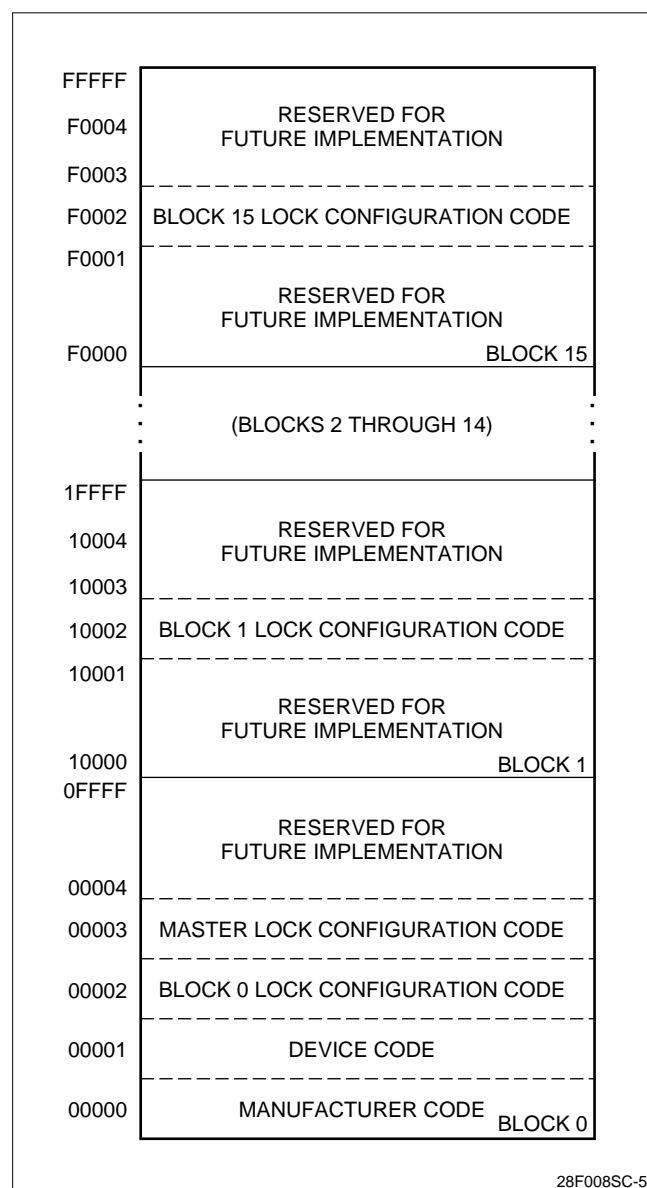

Figure 5. Device Identifier Code Memory Map
The LH28F008SC is a high-performance 8M Smart-Voltage FlashFile memory organized as 1M of 8 bits. The 1M of data is arranged in sixteen 64K blocks which are individually erasable, lockable, and unlockable in-system. The memory map is shown in Figure 5.
The read identifier codes operation outputs the manufacturer code, device code, block lock configuration codes for each block, and the master lock configuration code (see Figure 5). Using the manufacturer and device codes, the system CPU can automatically match the device with its proper algorithms. The block lock and master lock configuration codes identify locked and unlocked blocks and master lock-bit setting.
IA = Identifier Code Address: see Figure 5.
The identifier code operation is initiated by writing the Read Identifier Codes command. Following the command write, read cycles from addresses shown in Figure 5 retrieve the manufacturer, device, block lock configuration and master lock configuration codes (see Identifier Code Table for code values). To terminate the operation, write another valid command. Like the Read Array command, the Read Identifier Codes command functions independently of the V_{PP} and \overline{RP} can be V_{IH} or V_{HH} . Following the Read Identifier Codes command, the following information can be read:
1. X selects the specific block lock configuration code to be read. See Figure 5 for the device identifier code memory map.